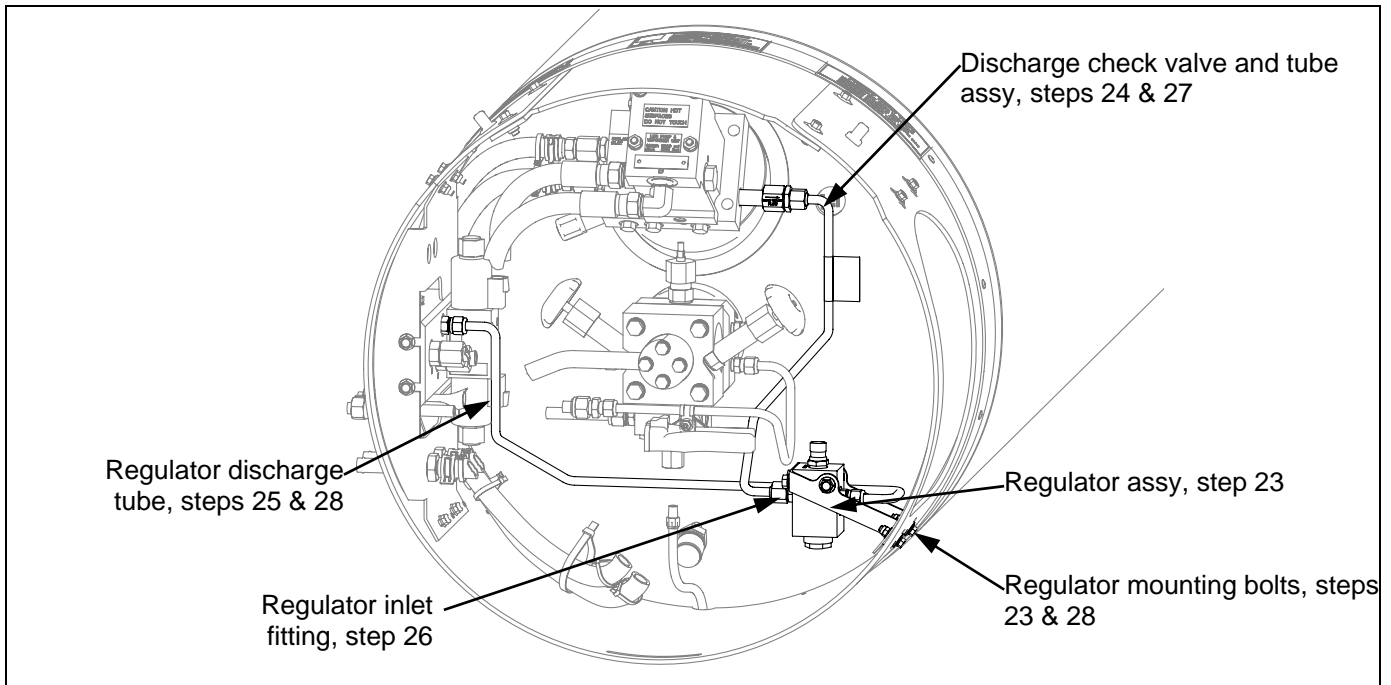

Figure 8: Installation location of regulator components and tube assemblies (RHS tank)
23. Fasten the regulator assembly loosely to the tank shroud using the provided mounting bolts, washers and nylok nuts (see Figure 8).